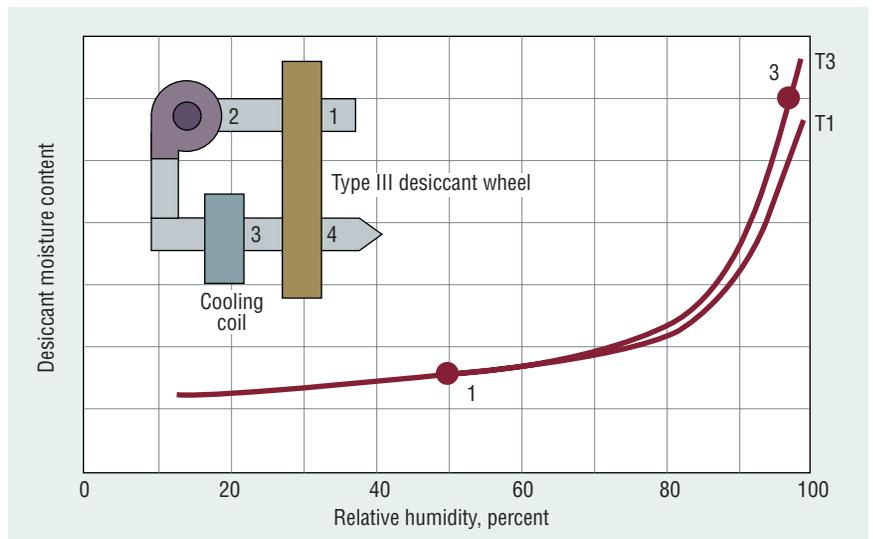

FIGURE 8. Type-III-isotherm desiccant wheel in series with a cooling coil.
(Figure 8). Because air leaves cooling coils at very high relative humidities, the desiccant is going to adsorb water vapor. On the other side of the wheel, the relative humidity (RH) of the regeneration air needs to be less than 70 percent for water vapor to be removed from the desiccant. In many applications, this is not difficult to achieve and may not require regeneration heat. Many environments requiring low supply-air dew points, such as surgery rooms and laboratories, require a high air-change rate, resulting in a large percentage of recirculated return air. The space sensible load heats the return air and lowers the RH of the air entering the upstream side of the series desiccant wheel, often to a level low enough to avoid the need to add heat for regeneration. With no heat added, the Type-III-isotherm wheel can be used in series with the cooling coil. In this arrangement, all of the dehumidification work is moved to the cooling coil, and the desiccant wheel is used to allow the system to achieve a supply-air dew point lower than the one the conventional cooling coil could achieve by itself. In addition, the wheel allows the coil to dehumidify with a warmer coil temperature, improving system efficiency.